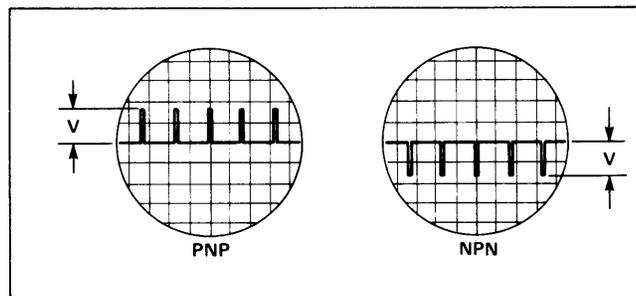

Fig. 10. Pulse voltage waveforms.
- LEAKAGE/GAIN meter (19) should be zero calibration as per section "A".
- Turn power switch (11) on and the DRIVE switch (10) to "LO" position. Connect the three test leads to a power transistor (any power transistor TO-3 package will do). Move Test Switch (4) through its positions until the unit indicates "GOOD" device (NPN/N-CH or PNP/P-CH lamp will light), and leave lever Test Switch (4) in that position.
- Set NPN/PNP switch (12) to either "NPN/N-CH" or "PNP/P-CH" position, as indicated by the "GOOD" LED polarity. Set HI PWR/LO PWR switch (10) to its "HI PWR" position.
- Turn TRANSISTOR BETA/FET  $g_m$  switch (9) to the "TRANSISTOR BETA" position. Observe oscilloscope. Record pulse voltage height (V) (Fig. 10).